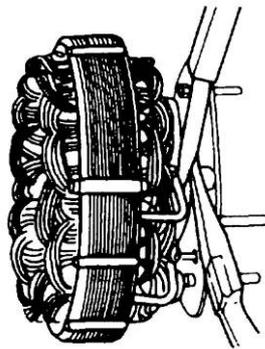

Figure 326 Reconnection of the Stator to the Diode Holder
- a. Position the diode holder on the stator coil assembly and solder each connection, ensuring the lead wires are held by long-nose pliers to prevent the heat damaging the diodes (Figure 326).